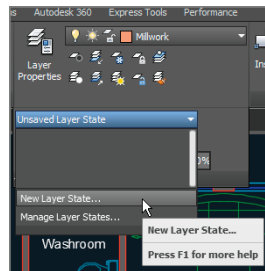

FIGURE 6.17 Saving a new layer state
1. Expand the Layers panel and open the Unsaved Layer State drop-down menu. Select New Layer State in the drop-down menu (see Figure 6.17).